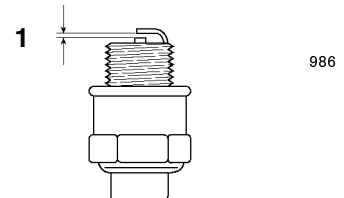

Figure 20
5. Set the gap on the new plug to 0.030 in. (0.76 mm) (Fig. 20).